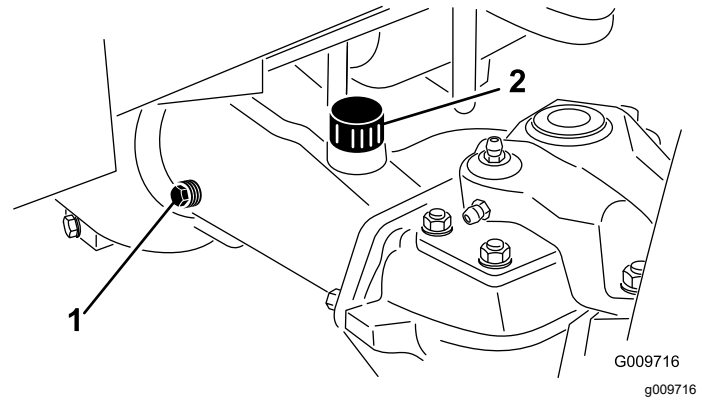

Figure 88
2. Remove a check plug from one end of the axle (Figure 88) and make sure that the lubricant is up to the bottom of the hole. If the level is low, remove the fill plug (Figure 88) and add enough lubricant to bring the level up to the bottom of the check plug holes.